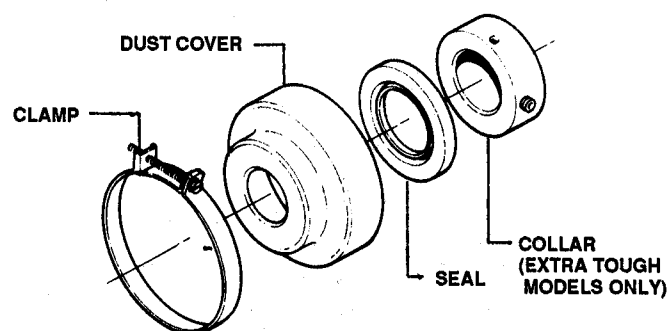

FIGURE 4.17
12. Remove clamp, dust cover and seal. Remove collar on **EXTRA TOUGH Models**. See Figure 4.17.